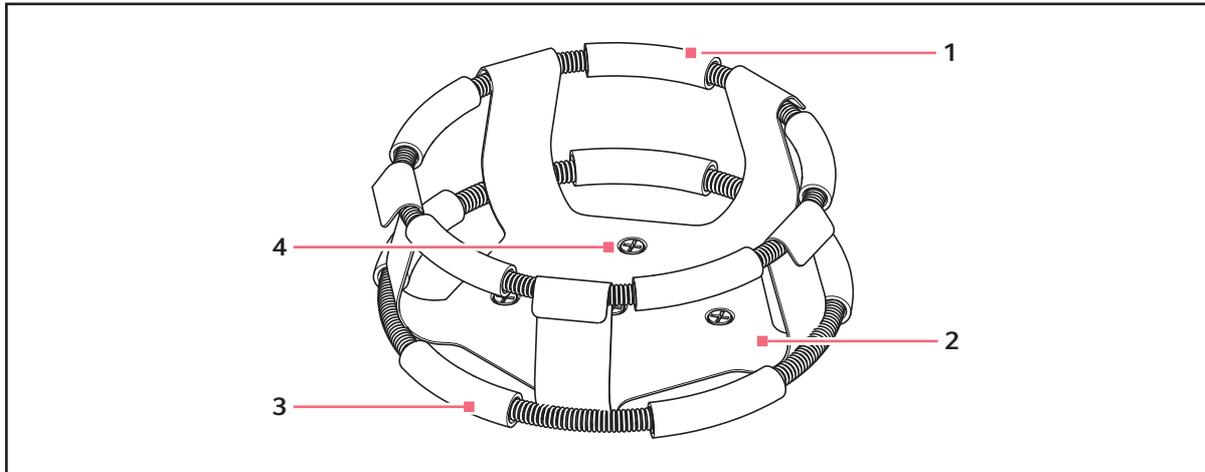

Fig. 4-3: Double girdle clamp installation
6. Make sure that the spring sections of the second girdle rest against the clamp legs, and that the rubber sections sit against the flask (in between the clamp legs (see Fig. 4-3 on p. 16)).